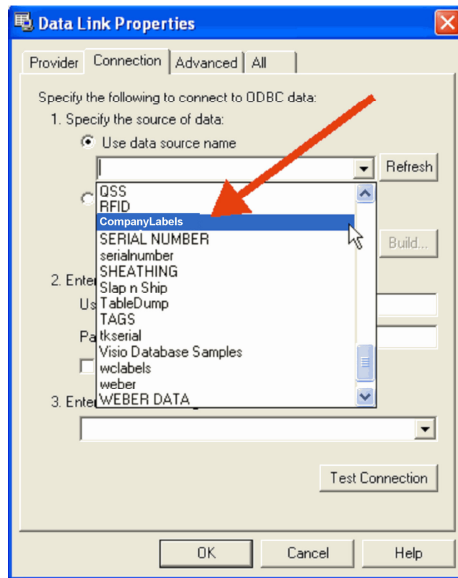

Figure 4-6a
4.2.6. Use the *data source name* you created in step 2.22. (Figure 4-6a)